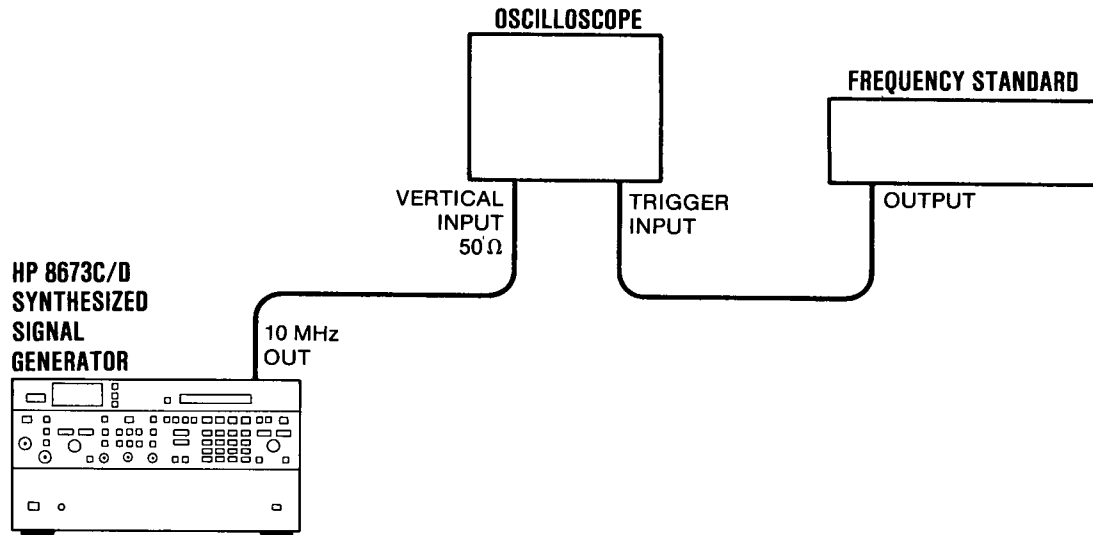

Figure 5-5. 10 MHz Reference Oscillator Adjustment Test Setup
2. Connect the equipment as shown in Figure 5-5. Set vertical input of oscilloscope for 50Ω input impedance.